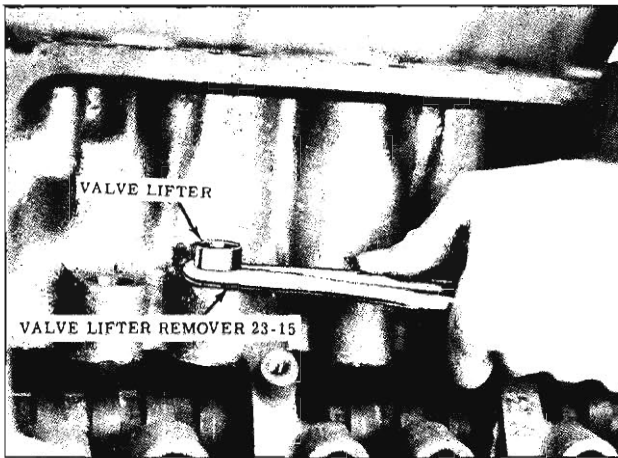

Fig. 3-13 Removing Lifter
4. Remove valve lifters. The use of Tool 23-15 will aid in removal of varnished lifters. (Fig. 3-13)